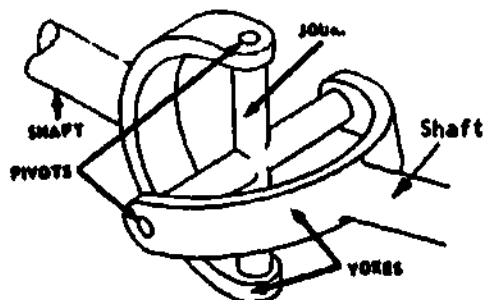

Fig 3-20. Simple universal joint.
c. Universal joint. A simple universal joint (fig 3-20) is composed of three basic units: one journal, and two yokes. The construction permits each yoke to pivot on the axis of the journal, and carries the rotary motion from one yoke to the other. As a result, the universal joint can transmit the power from the engine through the propeller shaft to the differential, which is constantly moving up and down in relation to the frame.